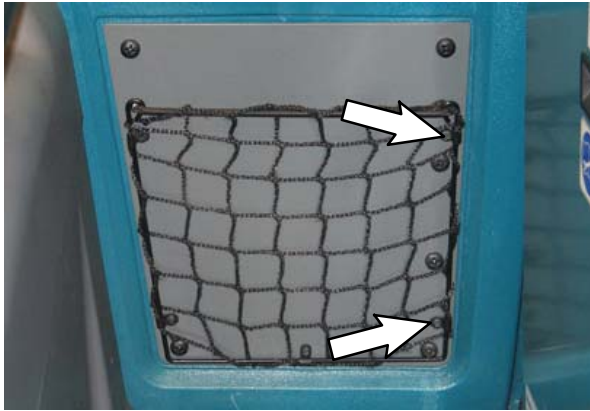

FIG. 11
19. Remove the two M5 pan screws securing the mesh to the front of the mesh plate. Set the M5 pan screws aside. (Fig. 11)